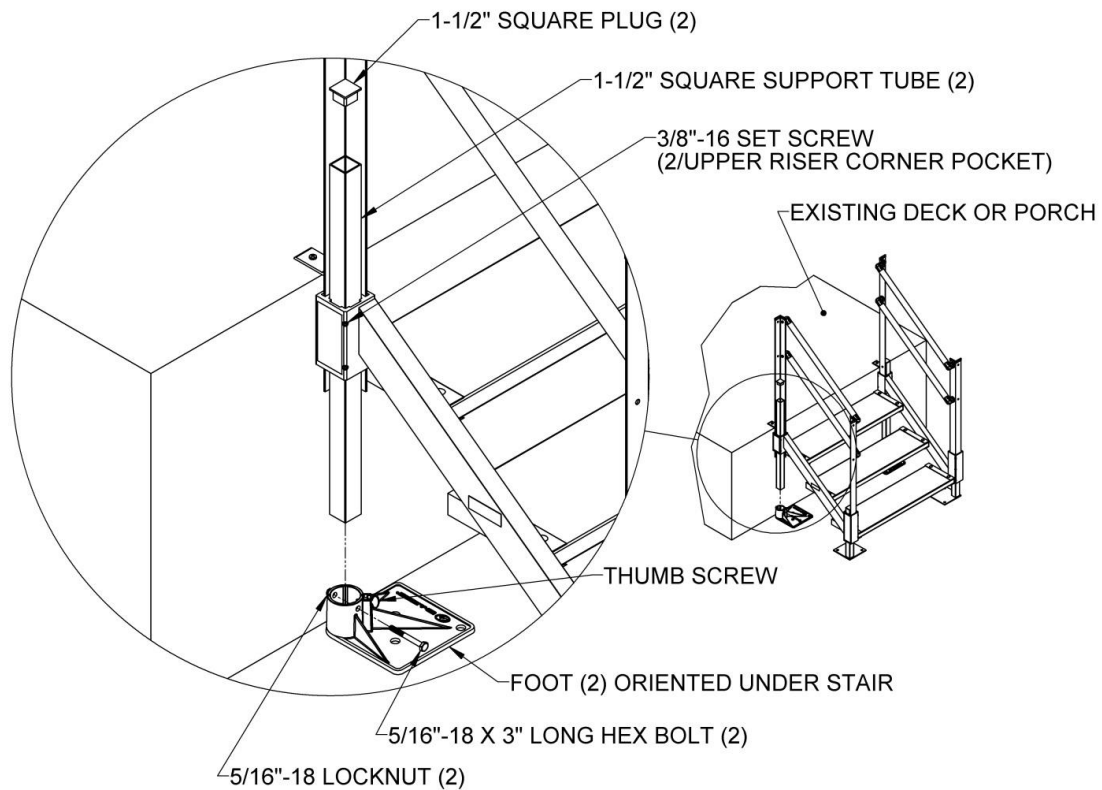

FIG. 16
- 5.1. Installation of PATHWAY STAIR SYSTEM LEG PAIRS (PSSLPxxxx where xxxx denotes the stair system rise) at the top is similar to installing the stair leg at the bottom but the components are not welded assemblies. First insert the 1-1/2" square support tube through the open area in the upper riser corner pocket and into the foot. The foot should be oriented either under the stair as shown (FIG. 16).
- 5.4. Tighten the 3/8"-16 set screws in the riser corner pocket securely (FIG.16).